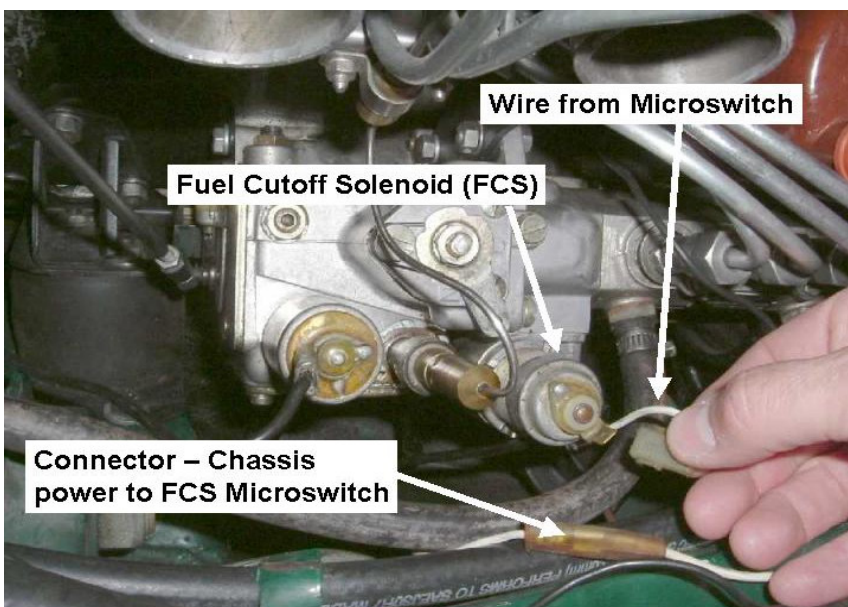

Fig 12. Fuel Cutoff circuit showing wires from chassis to Microswitch to Fuel Cutoff Solenoid (FCS). FCS circuit energized via fuse #6.
2. See Figs 12 and 13. Disconnect the wire from the spade terminal of the FCS (forward-most actuator on the mid-top of the injection pump). Tape and secure the wire end so it won't short out against anything. This wire can be reached without removing the airbox.